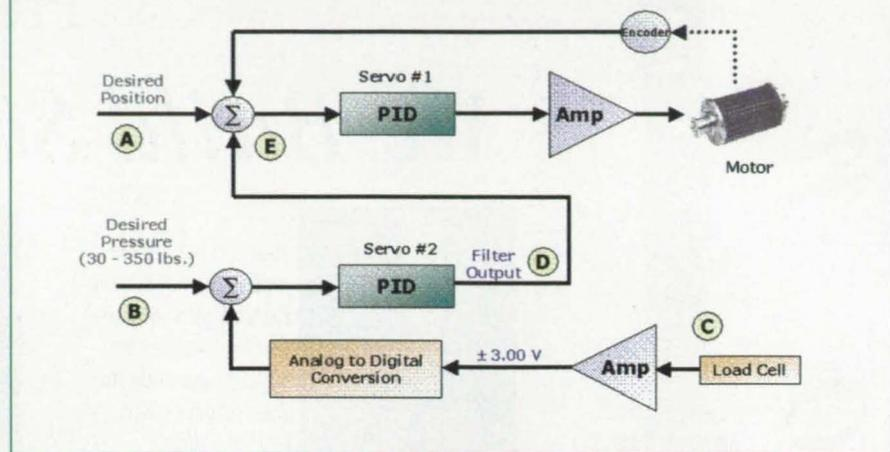

Figure 2. Motion controller set up.
The diagram (Figure 2) illustrates how the motion controller was set up for this application. As can be seen, "Servo #1" provides the standard position loop control. At point (A) the desired motor position is summed with the actual position. "Servo #2" is set up to provide the force loop control. At point (B), the desired force is summed with the load signal. A load cell at point (C) is used to measure the exerted force and provides this as the feedback signal to "Servo #2". When a difference (error) exists between the desired force and the measured force, the servo loop output, at point (D), for "Servo #2" becomes non-zero. This signal is then combined with the command position of "Servo #1" at point (E), thus commanding the motor to change position until the load cell "sees" a force equivalent to the desired force.